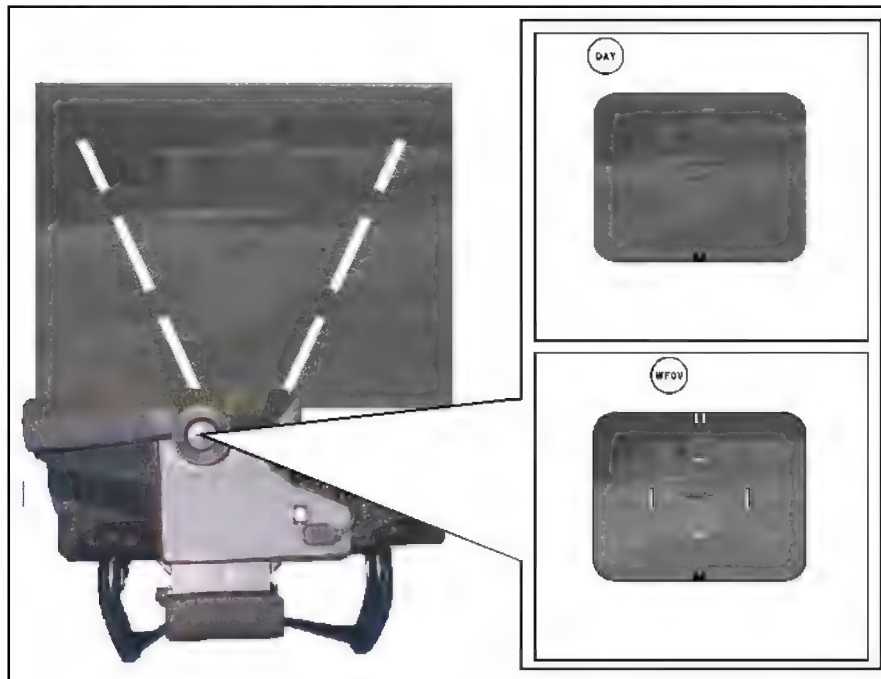

Figure E-25. Day FOV versus NVS operation during High levels of obscuration.
(1) Rain, snow, sleet, fog, haze, smoke, dust, and darkness are referred to collectively as limited visibility conditions. These conditions affect the gunner's ability to acquire and engage targets with the Javelin especially when using day FOV (Figure E-25, page E-16). The gunner uses the NVS to overcome darkness, haze, and some smoke systems.
(2) The NVS can see through low levels of these obscurants better than the daysight. Its capability is restricted at higher levels of obscurations (Figure E-25). The effect on the NVS image is a decrease in contrast.